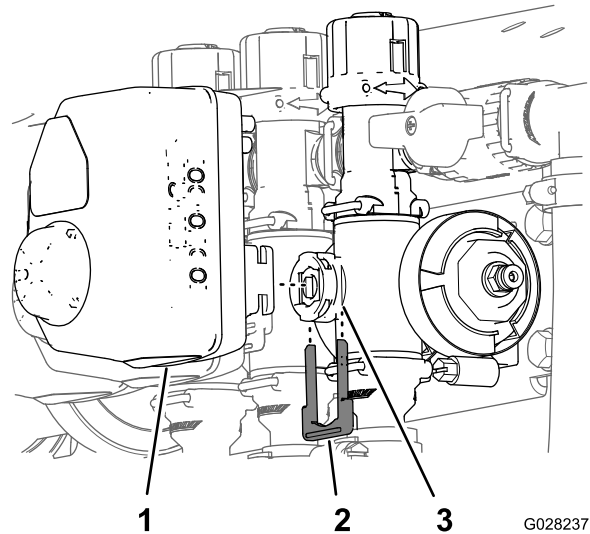

Figure 3
1. Remove the retainer that secures the a actuator to the manifold valve for the section valve or agitation valve (Figure 3).